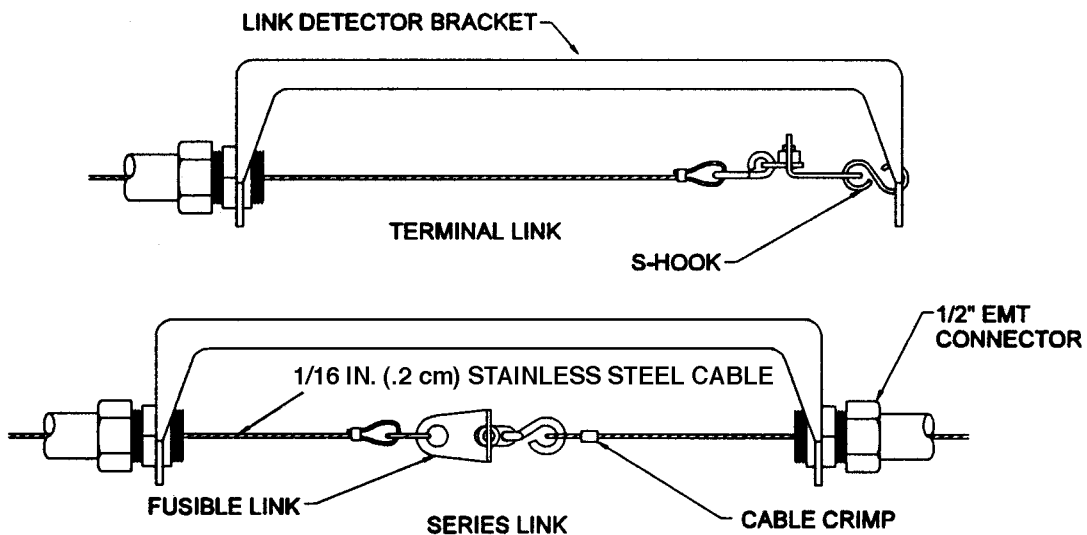

Figure 2-9. Model FLK-1 Fusible Link
- ▶ The Model FLK-1 fusible link kit includes a 10 in. (25.4 cm) steel bracket, two (2) 1/2" EMT connectors, two (2) cable crimps, and two (2) "S" hooks. Fusible links must be ordered separately. See **Figure 2-9**.